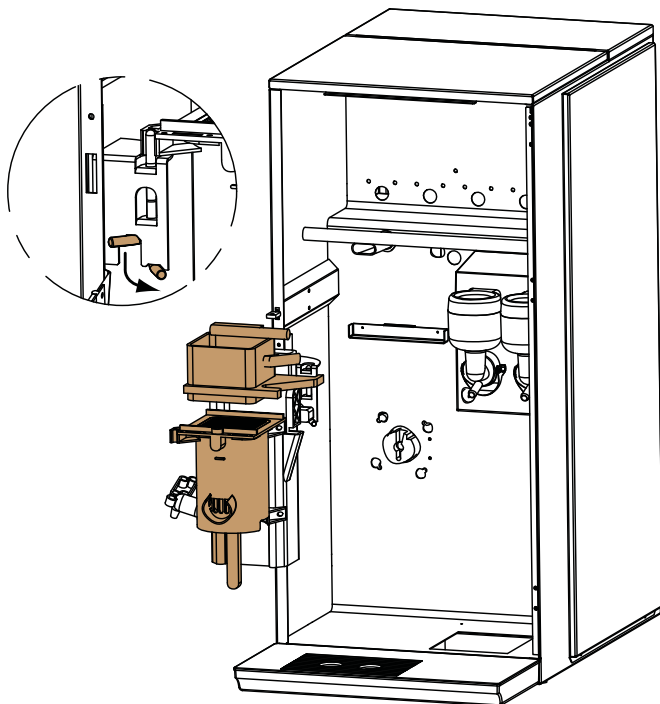

Figure 8-2 Removing the brewing group.
8. Pull and turn the lock pin downwards (see figure 8-2)